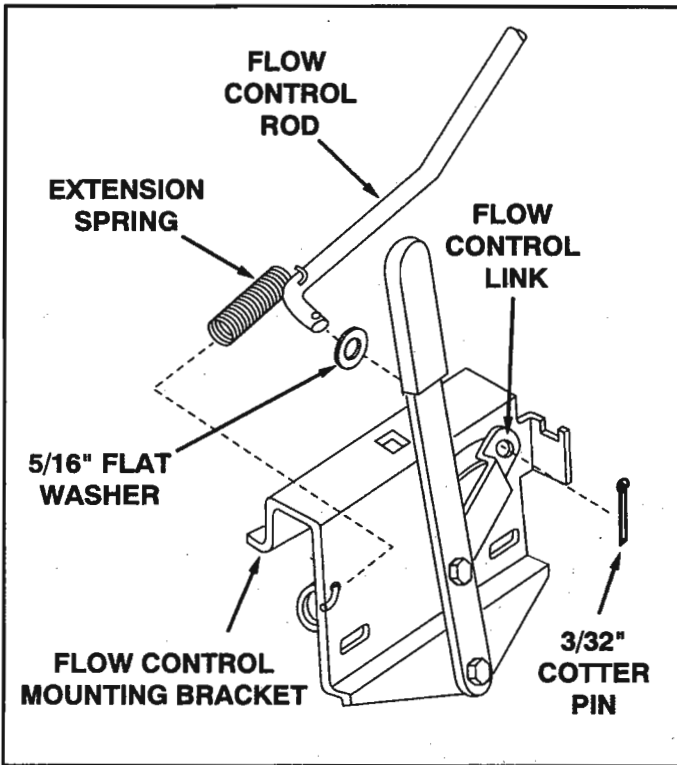

FIGURE 12
- Place a 5/16" flat washer over the end of flow control rod, and insert end of rod through slot in flow control mount bracket and through the hole in flow control link. Secure with a 3/32" x 3/4" cotter pin. See figure 12.